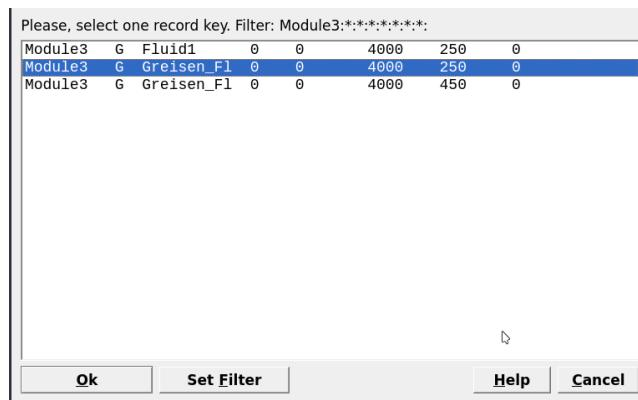

Figure 3.14: Select a parent chemical system ('SysEq') for modeling a 'Process'.
- Create a new record from scratch and select “Greisen_Fl, 4000, 250” as your parent chemical system record (Fig. 3.14). Note that the parent chemical record needs to contain the fluid and the rock to be titrated with the correct units (double check in **SysEq**).